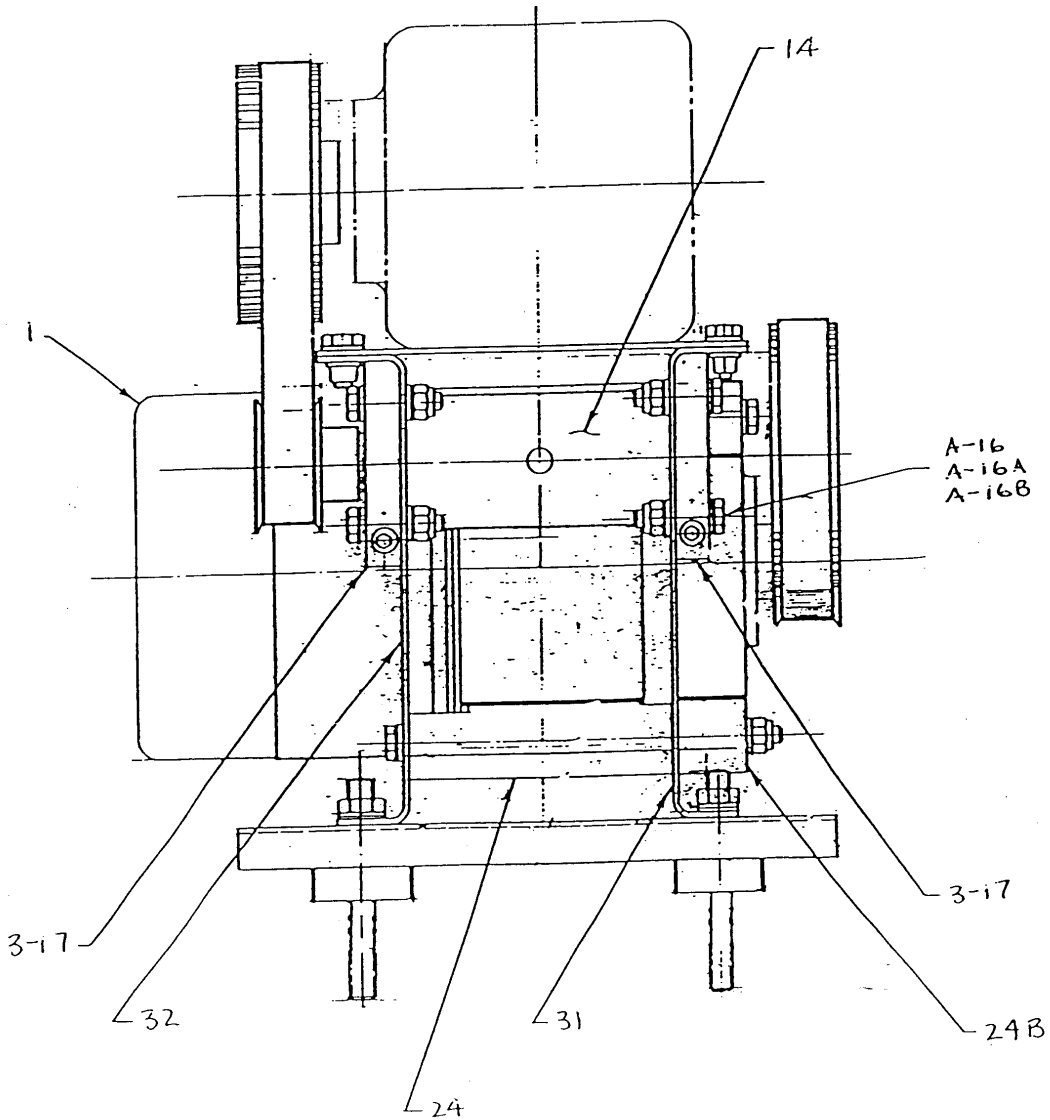

FIGURE 1.
D. ASSEMBLY: Refer to FIGURE 1/2/3/4 and A/B/C/D of SZ45MM.